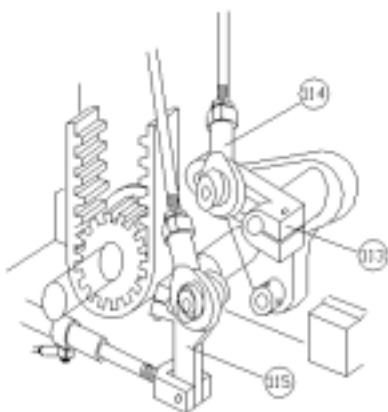

FIG. 44
The movement of the feet must be coordinated and centered with respect to the feed dog by means of the fork-shaped transport lever (110) and by varying the position of the joint (110) in the slot of the pressure foot movement lever (113). The screw for adjusting the position of the joint (114) is accessible from the hole in the right-hand side of the bench. FIG. 44.